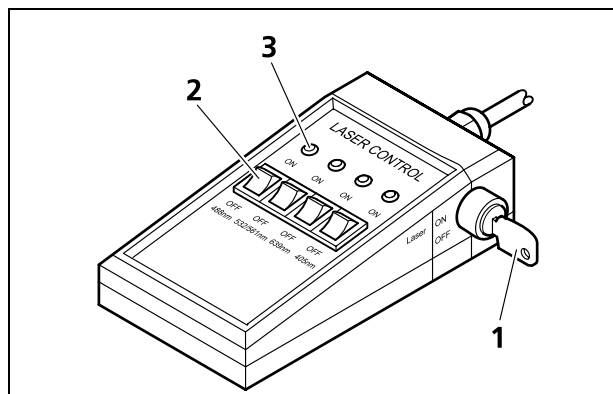

Fig. 4-8 Turning the laser controller on
- Turn the key switch (Fig. 4-8/**1**) of the laser controller into position **ON**.
- To turn a desired laser line on, press the related button (Fig. 4-8/**2**). The corresponding red control LED (Fig. 4-8/**3**) will light.
Place the laser controller directly beside the microscope. This enables you to track which laser is currently on (LED **ON** (Fig. 4-8/**3**)).
- Turn the key switch (Fig. 4-8/1) of the laser controller into position **OFF**.